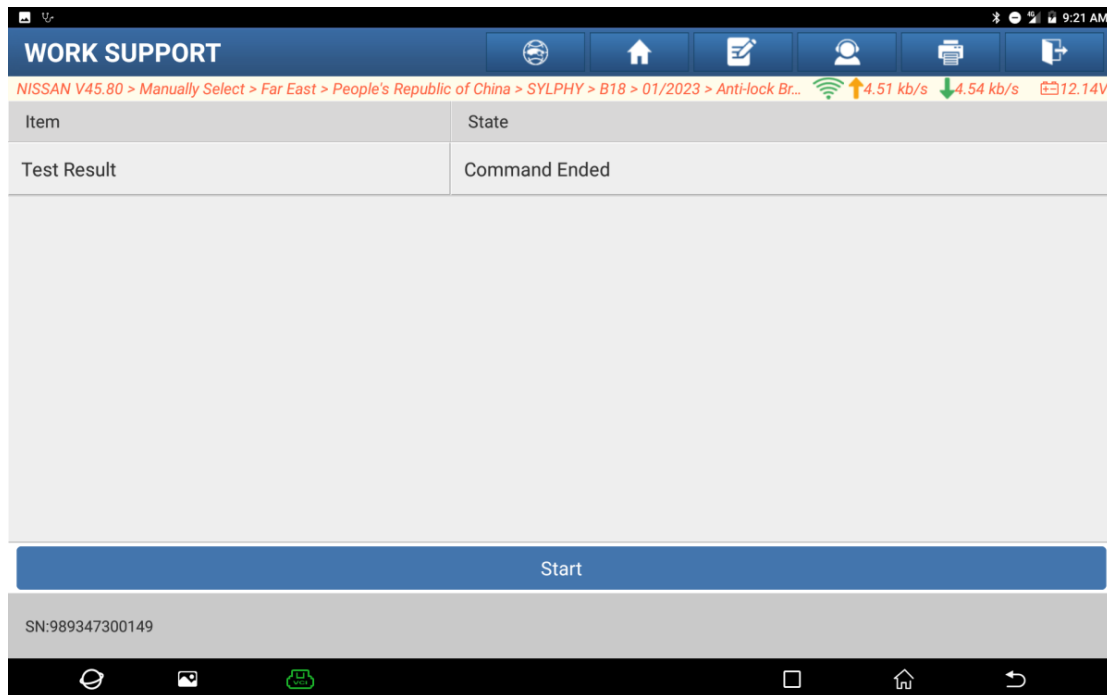

Figure 9
- 9. The item status value is displayed as "Command Ended", and the adjustment is completed (as shown in Figure 9).